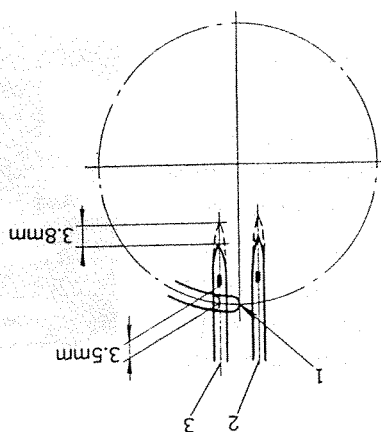

Fig. 36
Loosen the hook set screws, turn the balance wheel toward you until the needle bar raises to 3.8 mm from its lowest position. Bring the hook point (1, Fig. 36) to the center between two needles (2) and (3), then tighten the hook screws, at the same time, set the clearance between the needle and hook point 0.1 mm to 0.2 mm.